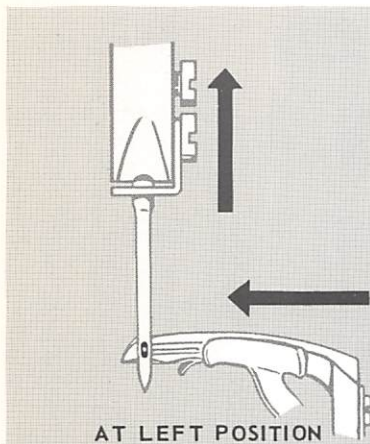

Fig. 22. Needle and Looper Eyes Aligned
1. Turn machine pulley over toward operator until eye of looper (on its forward stroke) reaches center of needle (at its left position). At this position, eye of looper should be exactly in line with eye of needle, as shown in Fig. 22.